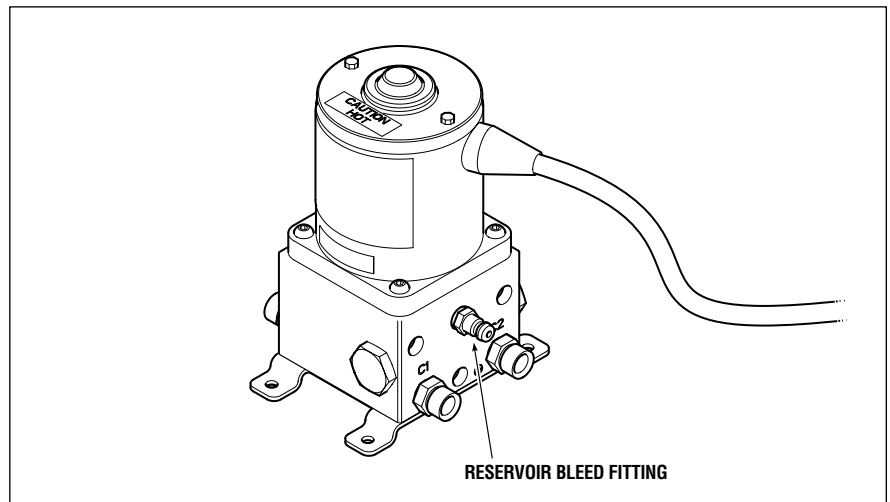

Figure 9.
- Open Autopilot pump reservoir bleed fitting. Refer to figure 9.
- Connect one of the fluid return hoses (cylinder lines) from the Power Purge unit to the reservoir bleed fitting on the SeaStar Autopilot pump (see figure 9 on page 17 for bleed fitting location).